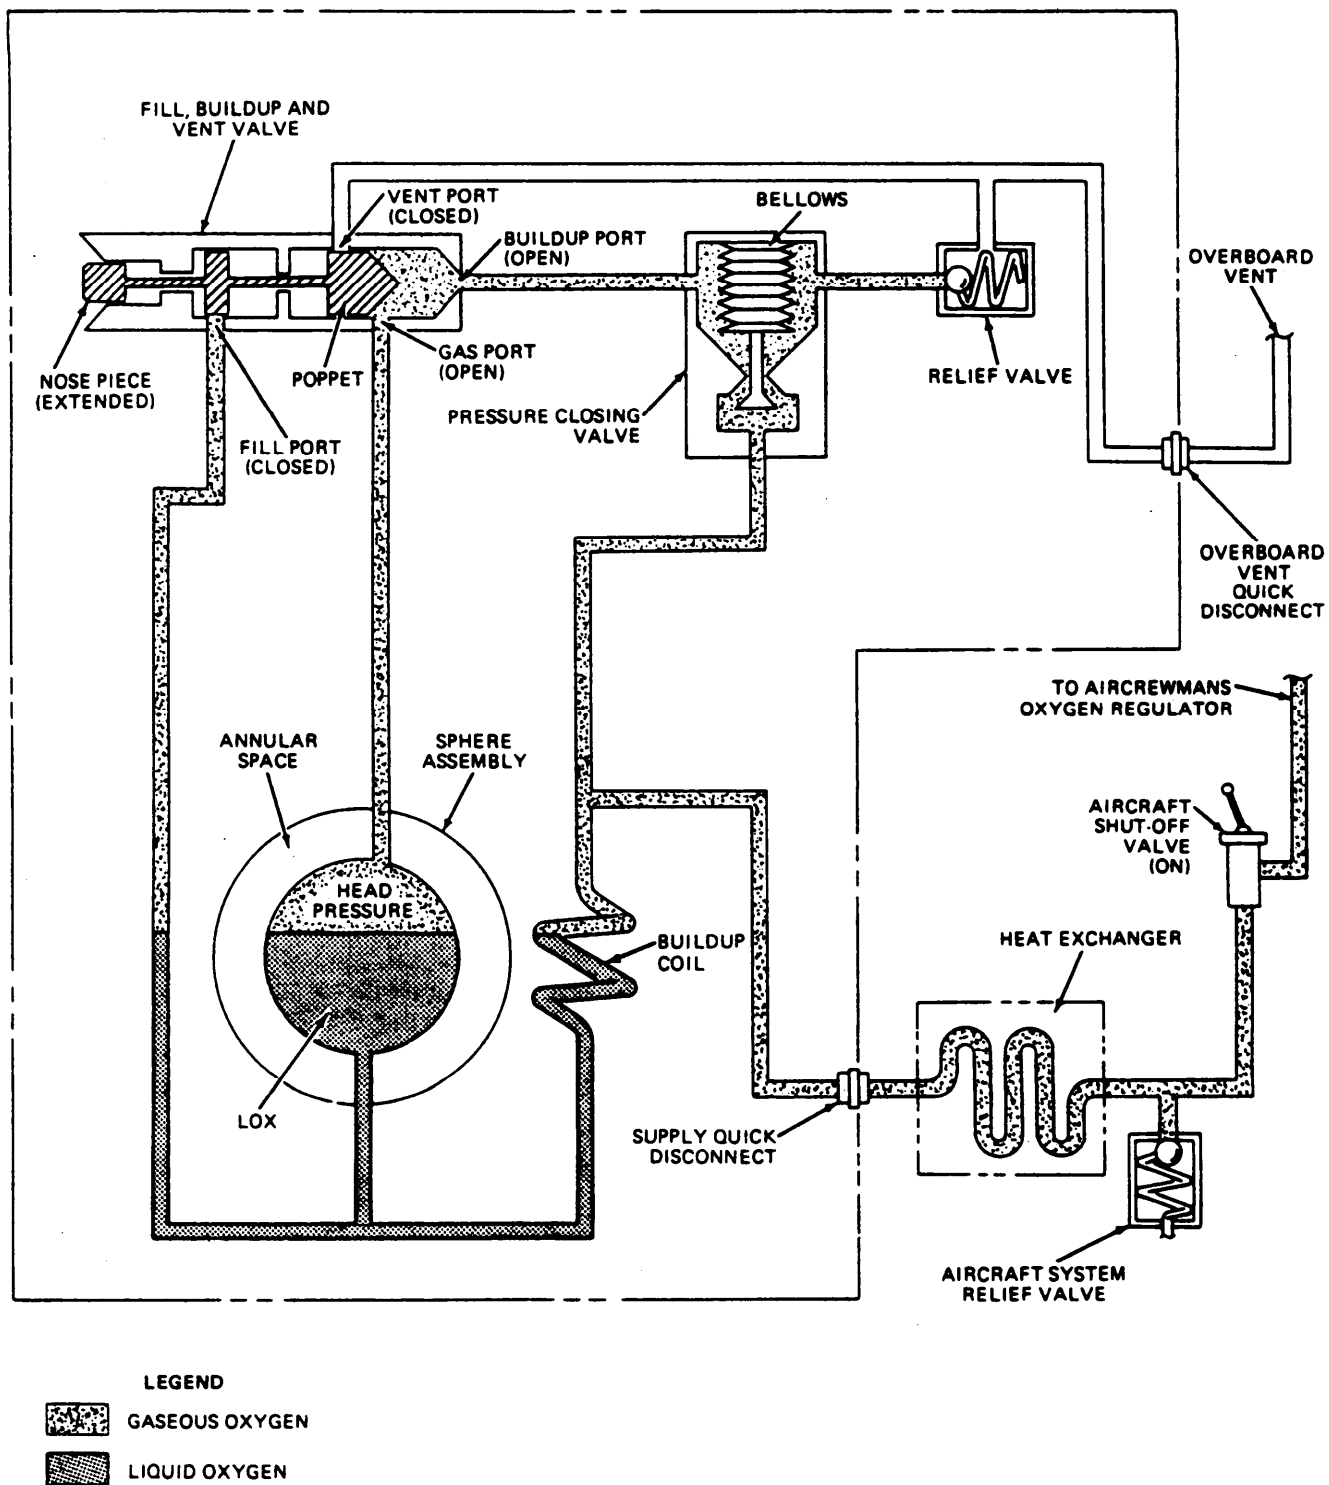
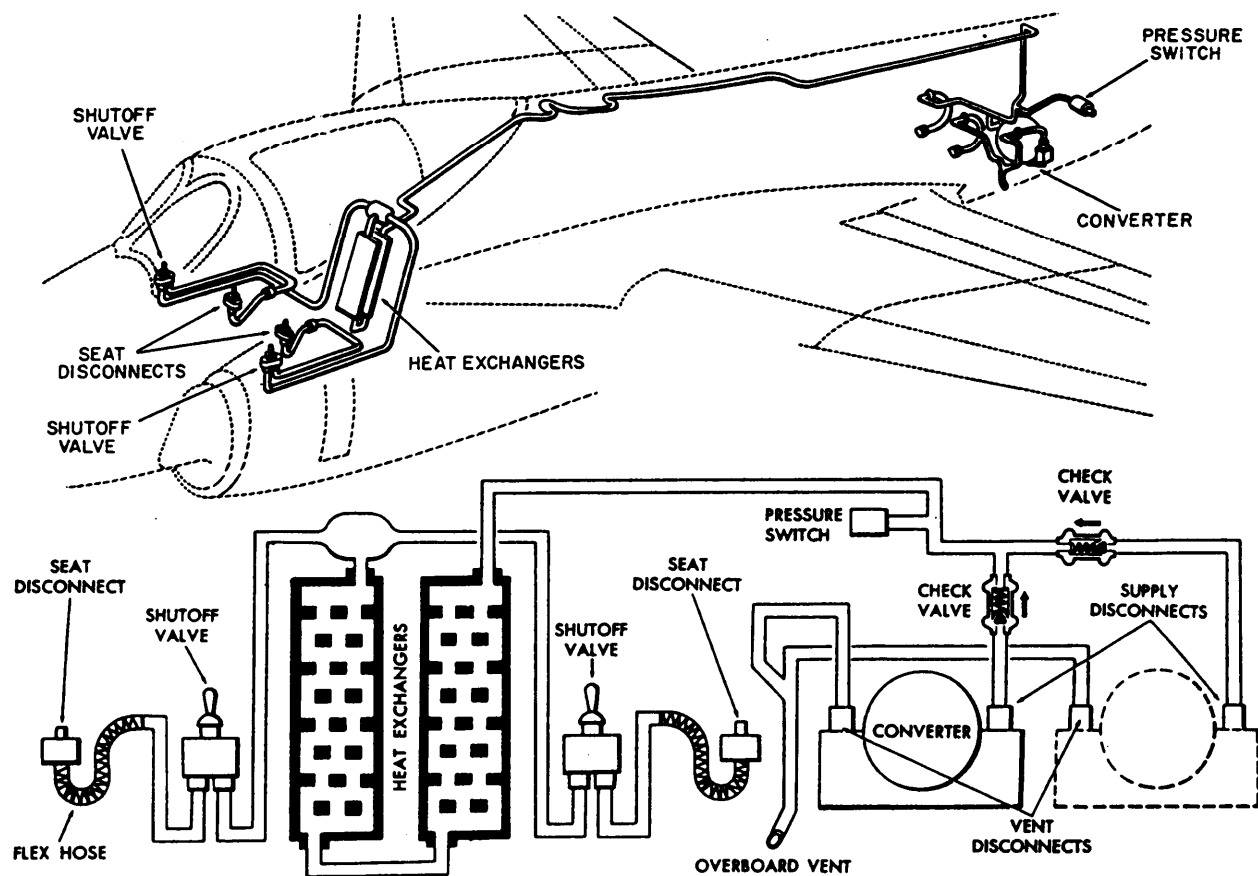

Figure 12-6.-Buildup and supply mode (Converter Installed).
Figure 12-7.—Converter installed in an aircraft.
1. The converter is filled by attaching the LOX servicing trailer filler valve to the filler port of the fill, buildup, and vent valve on the converter. When attached, the servicing trailer filler valve depresses the nosepiece and valve poppet of the fill, buildup, and vent valve. This automatically puts the converter into the fill mode (fig. 12-6). Figure 12-7 shows the converter installed in an aircraft.
4. When the converter is full and the servicing trailer filler valve is disconnected, the nosepiece and poppet of the fill, buildup and vent valve return to the extended position (fig. 12-6). This automatically puts the converter into the buildup and supply mode by closing the fill and vent ports of the valve, and opening the buildup port.
5. In the buildup and supply mode (fig. 12-6), LOX is forced out of the bottom of the inner sphere and into the buildup coil by the weight of the liquid. As the LOX warms and vaporizes into gaseous oxygen in the buildup coil, pressure is created. This pressure is controlled at approximately 75 psig by the opening and closing action of the pressure closing valve.